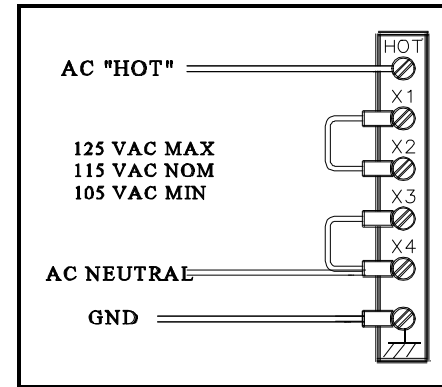

FIGURE 4: HOOKUP FOR 110VAC
2. Place the RED meter lead on (between) the Sense Resistors (labeled Rs in Figure 4).